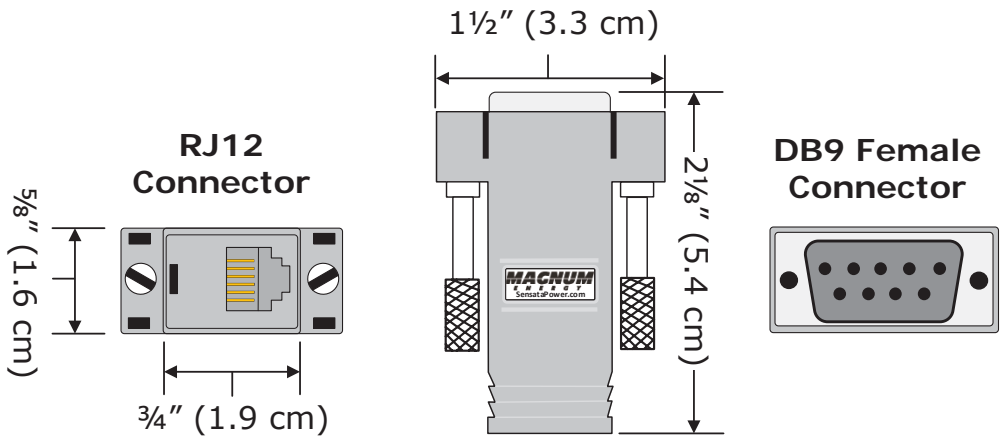

Figure 2, ME-MGT-ADAPTER
2. Plug the female end of the DB9 cable into the MagWeb GT's *Serial port*, and then plug the male end of DB9 cable into the *DB9 female connector* on the ME-MGT-ADAPTER (Figure 2).
3. Plug one end of the remote cable into the *RJ12 connector* on the ME-MGT-ADAPTER (Figure 2).